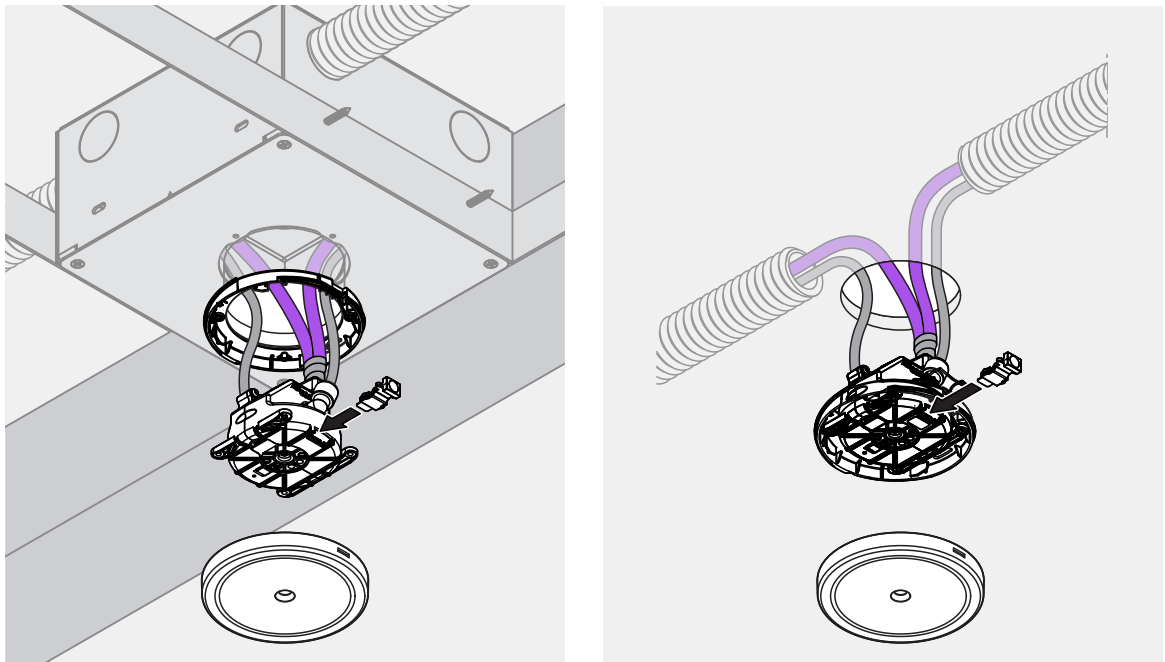

Fig. 96: Replacing the humidity sensor (screwed spray head version on the left, pluggable spray head version on the right)
3. Loosen the two screws (screwed version only, see Fig. 96 left).